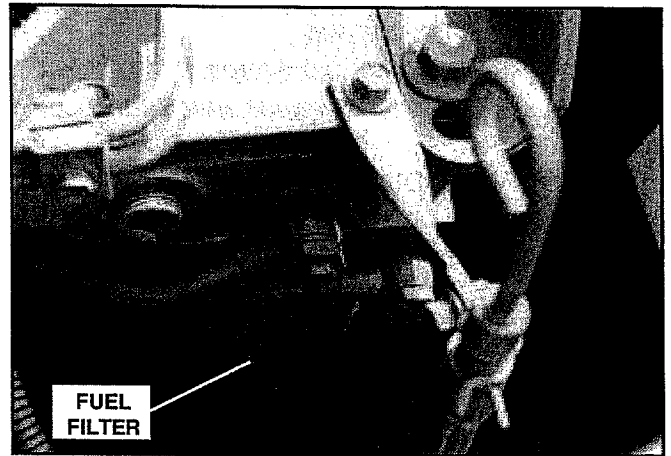

FIGURE 4.68
1. Raise engine cover and locate the fuel filter on the L.H. side of engine. See Figure 4.68.